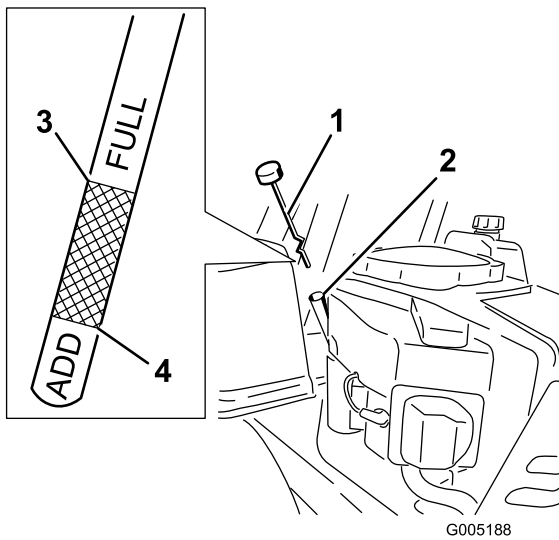

Figure 28
4. Unscrew and remove the dipstick; wipe oil off (Figure 28). Reinsert the dipstick into the tube and rest the cap on the tube. Do not screw the cap onto the tube.
- Pull the dipstick out and check the oil level. (Figure 28).
- Remove the oil fill cap/dipstick (Figure 28).
13. Slowly pour approximately 80% of the specified oil into the filler tube (Figure 28).
14. Install the oil fill cap/dipstick (Figure 28).
15. Check the oil level (Figure 28); refer to Checking the Oil Level.
17. Install the oil fill cap/dipstick and screw tight (Figure 28).